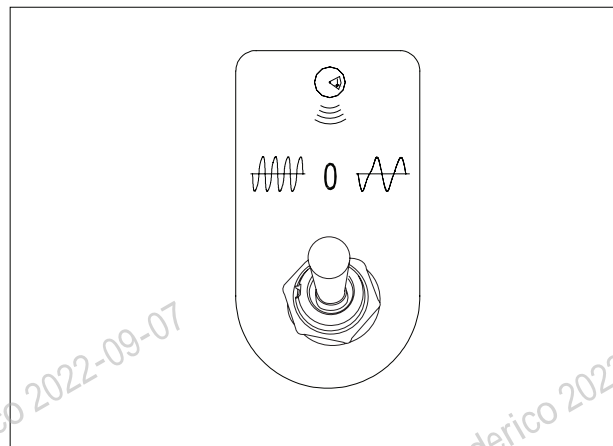

Fig.4-44
2. Select vibration mode: the "O" Position. See Fig.4-44.